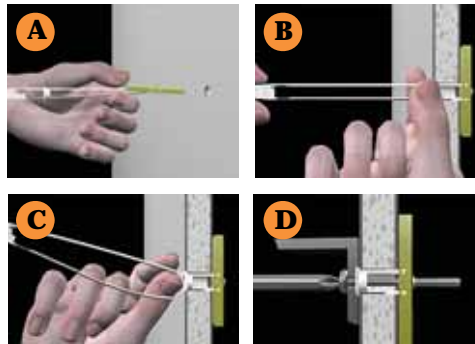

Figure 48. Installing the Toggle Bolts
3. (Refer to Figure 48, graphic **A**) Hold the metal channel flat alongside the plastic straps and slide the channel through the hole.
4. (Refer to Figure 48, graphic **B**) Hold the strap handle between your thumb and forefinger and pull towards you until the metal channel rests flush behind the wall.
5. (Refer to Figure 48, graphic **C**) Break the straps at the wall, flush with the flange of the cap. The straps can be broken by pushing them from side-to-side and simply snapping them off.
Figure 48, Graphic **D** shows a cutaway example of how the toggle bolt is used to secure an item to the wall (in our case, the item is the Wall Mounting Bracket—secured to the wall with 5 toggle bolts).